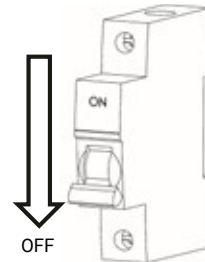

Fig. 1
1. Before opening and disassembling the fixture, make sure the power has been turned off through the main circuit breaker. (See Fig. 1.)